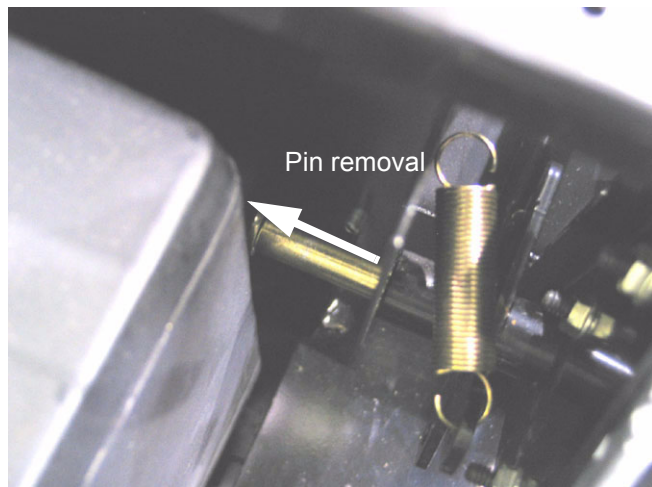

Figure 4.48
- 4.48. With the bracket removed, the fuel tank can be moved far enough back to allow the clevis pin to be removed. See Figure 4.48.